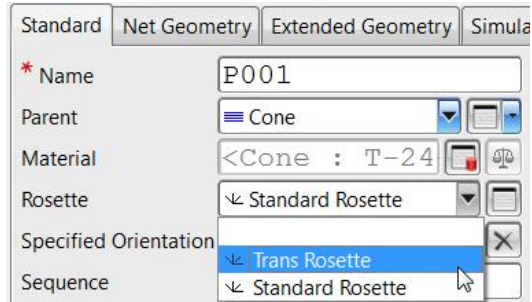

Figure 5–19
4. In the Rosette drop-down list, select **Trans Rosette** as shown on Figure 5–19.
5. The ply form should update as shown in Figure 5–20.